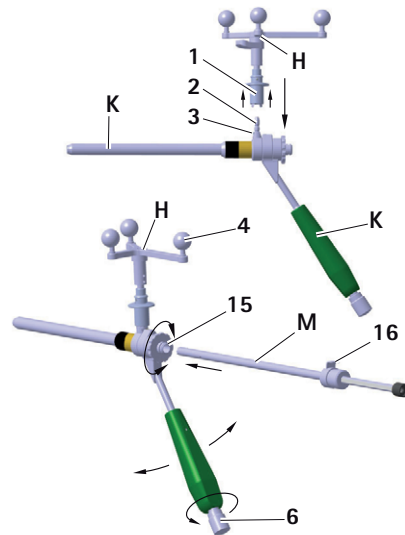

Fig. 13 Mounting the Aesculap star unit onto the S⁴C guide sleeve; Inserting the S⁴C drill guide
- To ensure that the camera has an unrestricted view of the reflective marker spheres, loosen knob 6 on the S⁴C handle of the S⁴C guide sleeve K and rotate Aesculap star unit H to the desired position, see Fig. 13.
- ▶ Slide the inner drill sleeve **M** onto the inner sleeve **15**. The inner guide sleeve engages on the inner sleeve and can still be rotated, see Fig. 13.